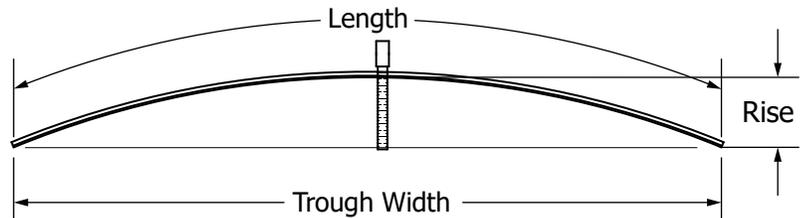

Figure 13-1
1) **Figure 13-1.** Verify trailer width subtract 1" for trough width, see table, find length base on trailer width and rise, cut to size.